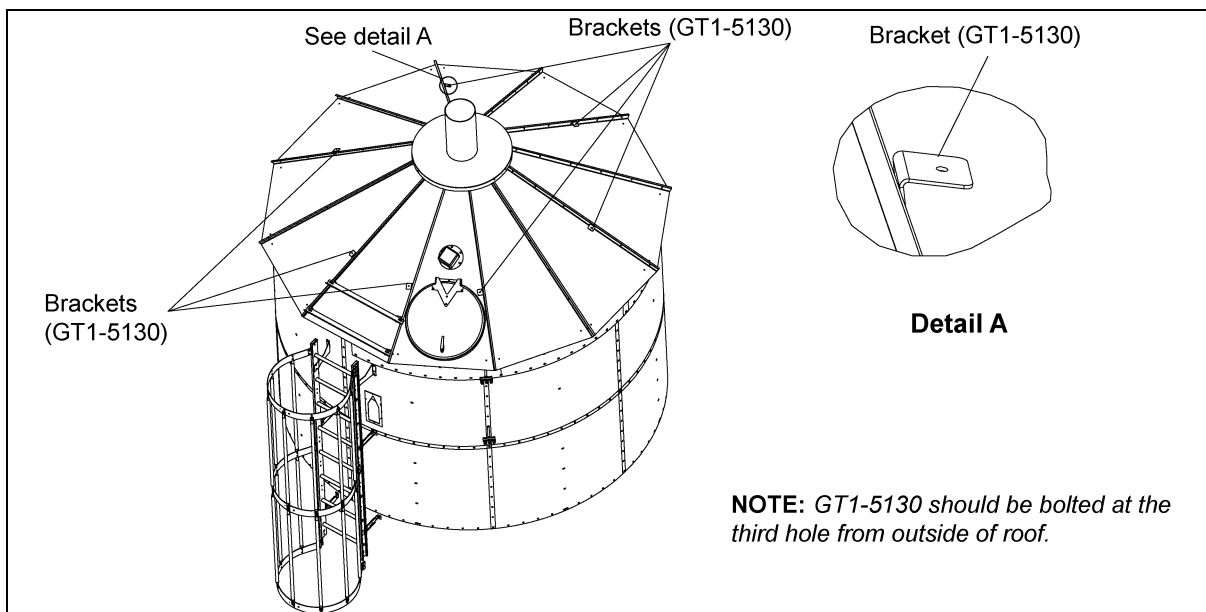

Figure 3M
1. Before installing the Peak Walk Around Assembly on the roof, assemble 7 ea. brackets (GT1-5130) on the roof sheet at the third hole from outside of the roof as shown in Figure 3M.